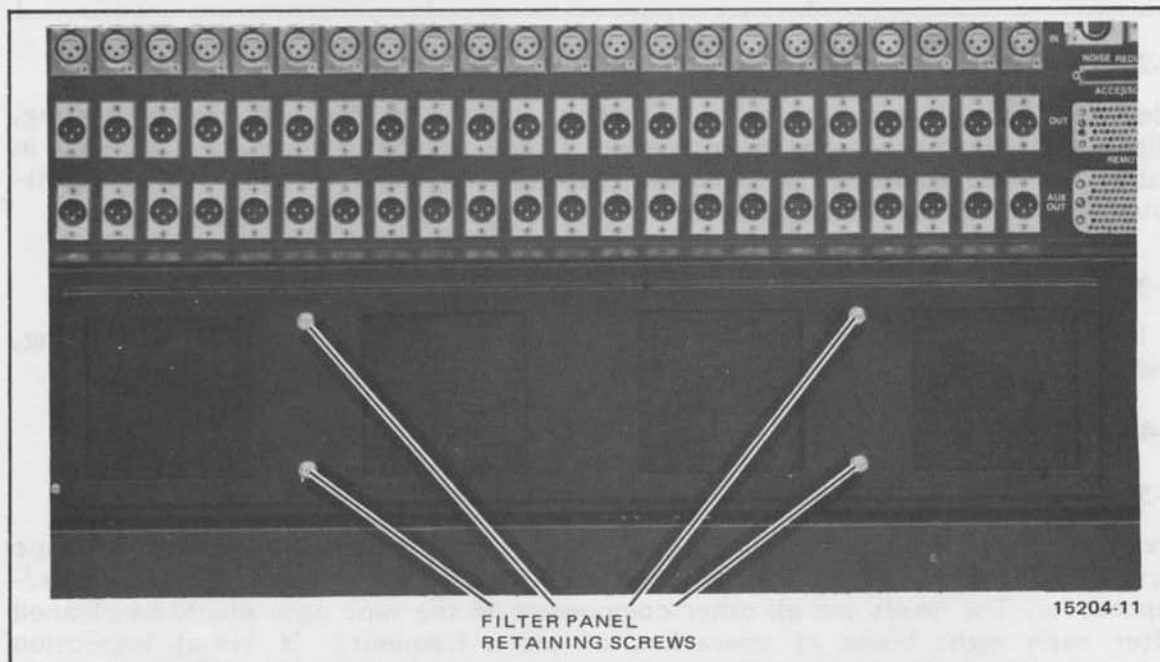

Figure 5-1. Air Filter Panel Retaining Screws
- STEP 1 Remove the four screws (Figure 5-1) which attach lower fan panel to recorder.